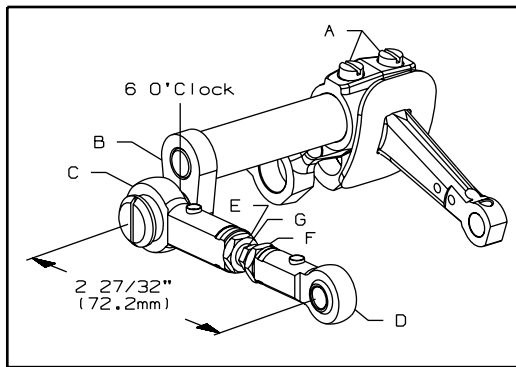

FIG. 28
At this time the knife drive lever should be in the 6 o'clock position. If adjustment is necessary, loosen screws (A, Fig. 28) in the needle lever and reposition knife drive lever (B) to the 6 o'clock position. Tighten screws (A). The dimension between the centerline of right and left knife drive connection ball joints (C and D) must be 2 27/32" (72.2mm). Loosen left hand thread nut (E), right hand thread nut (F) and turn connecting rod (G) until dimension is achieved. Tighten nuts (E and F).